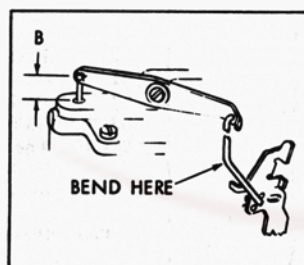

FIGURE 2
- See Figure 2 and Adjustment Data Table. With throttle valves fully closed (throttle stop screw backed out) the distance between top of accelerating pump link and top of air horn (B) should be as listed in the table when measured with a scale. To adjust, bend pump rod at point indicated.
PUMP ADJ. Fig.2